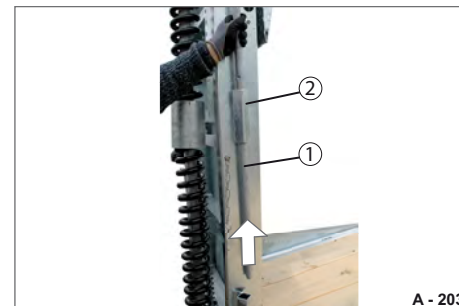

Fig. 82 Removing the operating pole
- Pull the operating pole (Fig. 82/1) upwards out of the holder (Fig. 82/2).